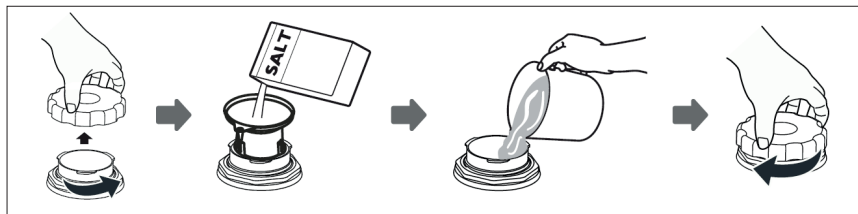

Fig.1
1. Open the appliance door, remove the lower basket and proceed as shown in Fig. 1 below.